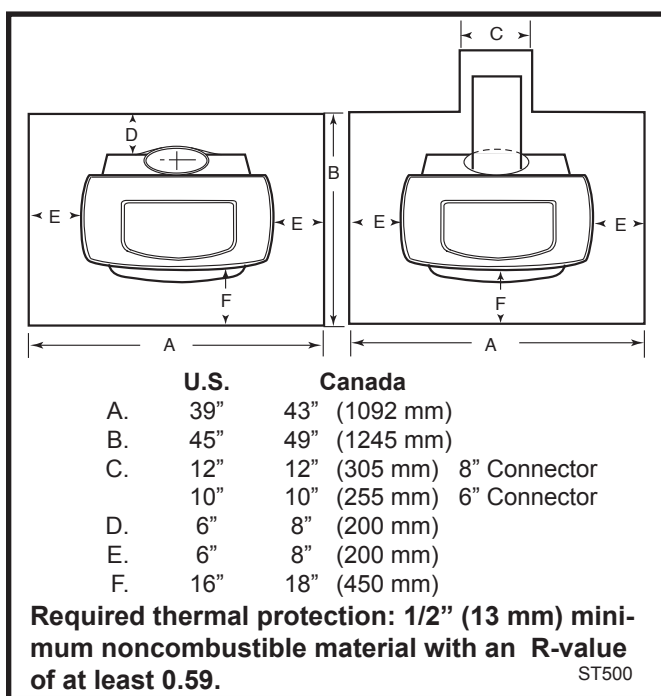

Fig. 12 Required floor protector dimensions for both top- and rear-exiting stove.
**U. S. installations** the floor protector is required under the stove and must extend at least 16" (not including the ash lip) from the front of the stove ("F", Fig. 12), and at least 6" from the sides and rear. ("D" and "E", Fig. 12) It must also extend under the chimney connector and 2" to either side. ("C", Fig. 12) For the 8" (203 mm) connector, the protector must be a minimum of 12" (305 mm) wide. For the 6" (152 mm) connector, the protector must be 10" (254 mm) wide. The protector must be centered under the connector.
**In Canada:** A noncombustible floor protector is required under the stove as well. The floor protector must extend 18" (450 mm) to the front ("F", Fig. 12), and 8" (200 mm) from the sides and rear. ("D" and "E", Fig. 12)
Floor protection also must extend under the chimney connector and 2" (51 mm) to either side. ("C", Fig. 12) For the 8" (203 mm) connector, the protector must be a minimum of 12" (305 mm) wide. For the 6" (152 mm) connector, it must be at least 10" (254 mm) wide. The protector must be centered under the connector.